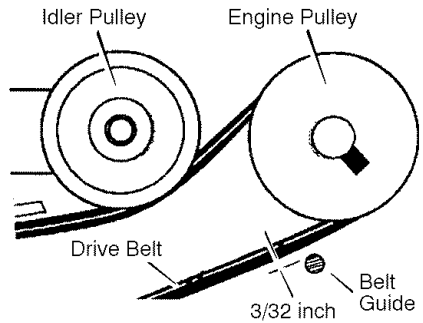

Figure 24
8. Set the belt guide to 3/32" clearance as shown in Figure 24.